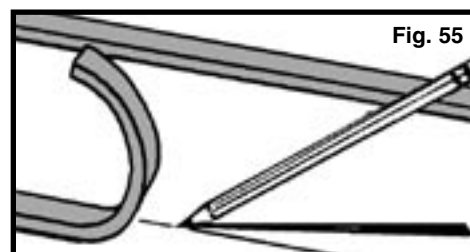
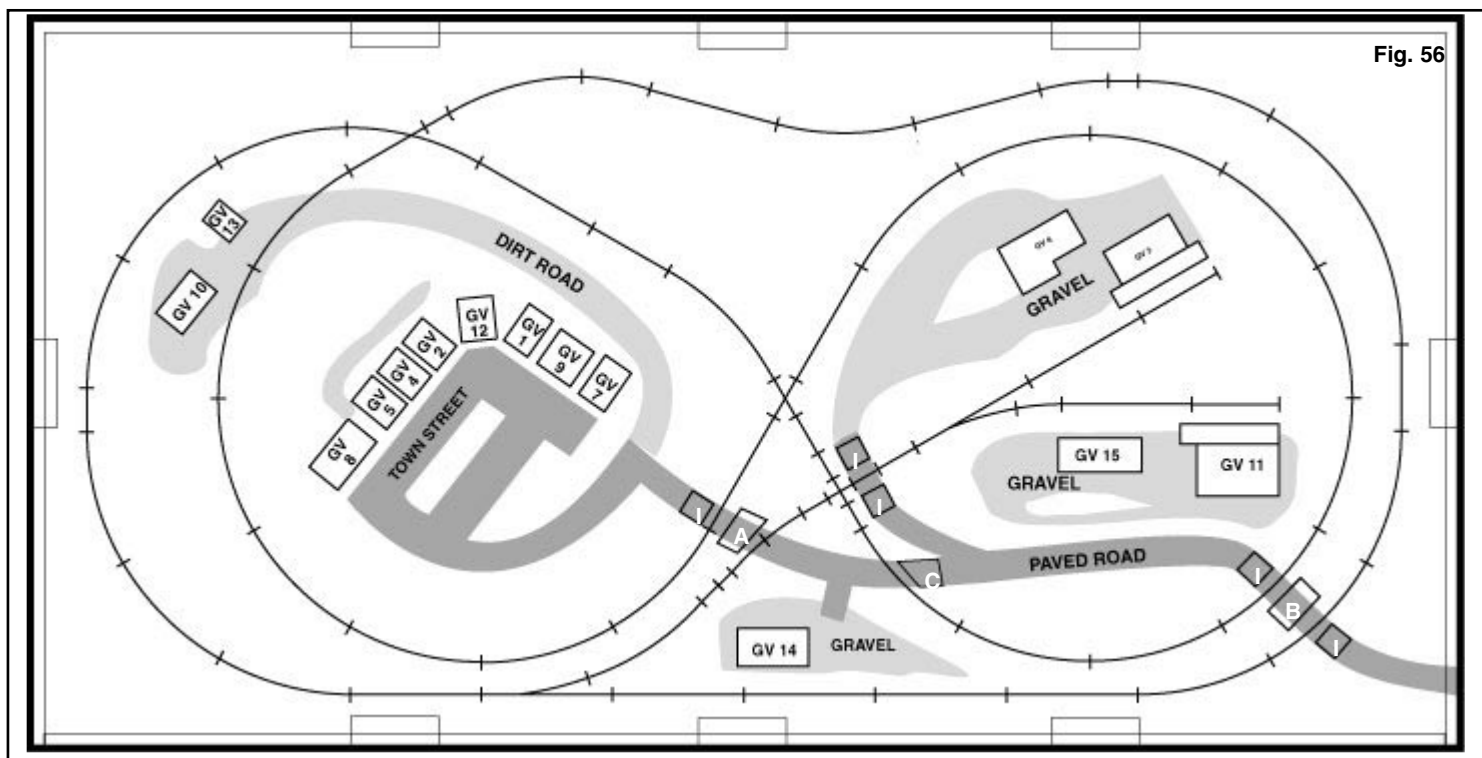
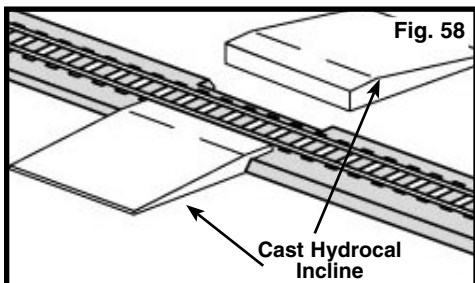

Fig. 55
Fig. 56
Fig. 58
Woodland Scenics Road System consists of Paving Tape, a plastic spreader, Smooth-It and Top Coat. It is the ideal system for adding realistic roads, streets, sidewalks, or pavement to the layout. Also included is a set of six Cast Hydrocal Inclines. Plan placement of roads, town areas and road crossings. For suggested road placement, see Fig. 56. Begin by drawing an outline of roads and paved areas with Foam Pencil (Fig. 55). Do this over level areas where you want buildings and wherever you want paved roads. Country roads should be 2 1/2" wide and city streets should be 4 1/8" wide. If buildings are to be placed, test fit them now. When satisfied with placement of roads and paved areas, begin laying Paving Tape.
- B. Test place each cast Incline in its notch in the Track-Bed. **Make sure the tops are level with the top of the rails.** Spread a layer of Foam Tack Glue on the bottom of each Incline and the Plaster Cloth surface and position (Fig. 58). The one angled Cast Hydrocal Incline goes in the position marked "C" ( Fig. 56).
Two places, marked "A" and "B" in Fig. 56, require a piece of 1/4" foam sheet be placed between the rails as a level foundation for the road.
- H. Following the street plan (Fig. 56), lay strips of Paving Tape on the outside of the lines defining the streets.